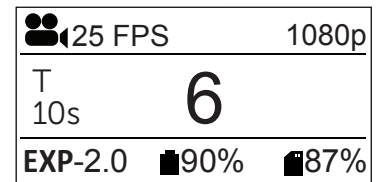

Figure 14: Stand by Screenshot
4. At the Standby screen, 'T' indicates Video Tagging is activated, and the set Video Tagging Interval is displayed, (see Figure 14).